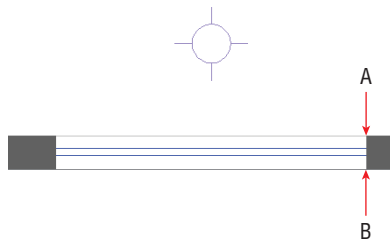

FIGURE 6.16 Measuring the wall thickness with DISTANCE
7. Zoom into one of the lower windows, and click the Distance tool in the Utilities panel. Click points A and B shown in Figure 6.16 to measure the wall thickness. The command prompt reads: